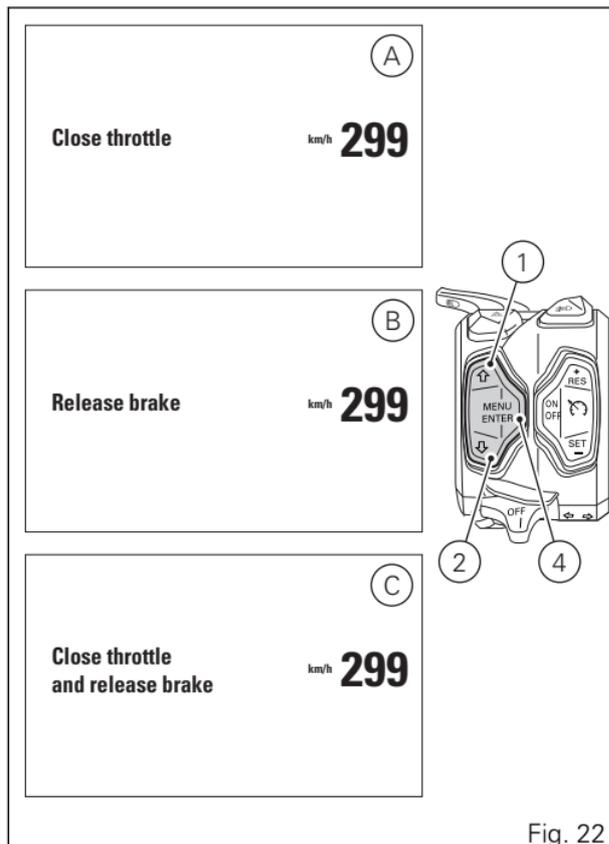

Fig. 22
- if throttle is "open" the instrument panel activates the "CLOSE THROTTLE" (A, Fig. 22) indication; only when throttle is "closed" the new selected riding mode is confirmed and memorised, and the instrument panel goes back to "standard page" displaying;
- if throttle is "closed" but brakes are operated, the instrument panel activates the "RELEASE BRAKES" (B, Fig. 22) indication and only when brakes are released the new selected riding mode is confirmed and memorised, and the instrument panel goes back to standard page displaying;
- if throttle is "open" or if brakes are operated and vehicle is moving, the instrument panel shows "CLOSE THROTTLE AND RELEASE BRAKES" (C, Fig. 22) and, only after all conditions are met (closed throttle and brakes released or vehicle stopped) the instrument panel confirms and memorises the new selected riding mode and goes back to "standard page" displaying.